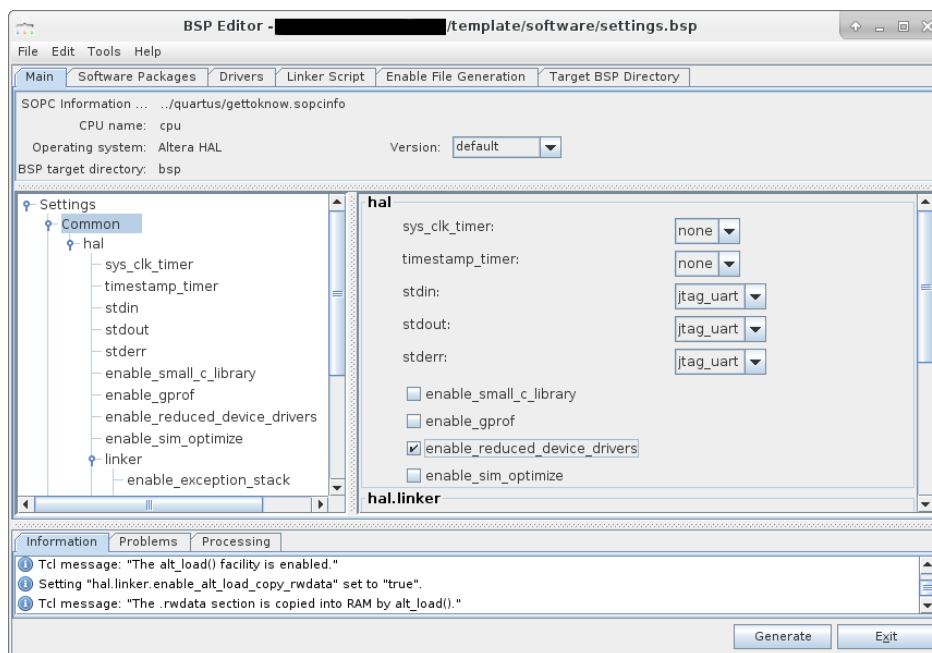

Figure 2.2: Nios II BSP Editor
- Now you can make customizations to the BSP. For this assignment the default settings are sufficient. However, be sure that the *small C library* is NOT enabled, because the software template will not work otherwise. This is also the reason why you need at least 120 kB of `main_memory`. Additionally, select the *reduced device drivers* option (see Figure 2.2). Furthermore, make sure that both `sys.clk_timer` and `timestamp_timer` are set to "none".